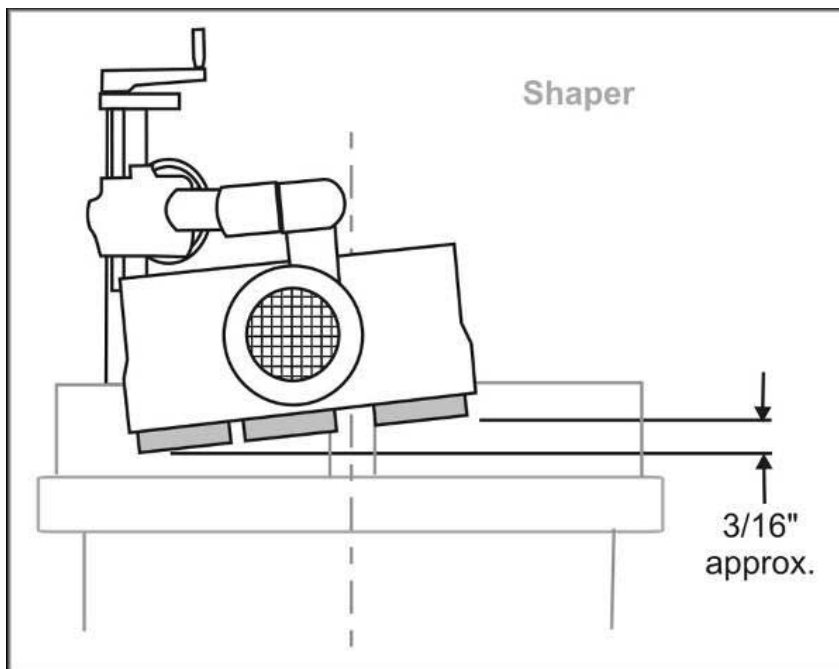

Figure 15 - Stock Feeder Position for Vertical Shaping
10. When the Stock Feeder is on its side so that the workpiece is held tight against the fence, as in creating molding, it must be inclined slightly towards the work table in the direction of feed, to ensure the workpiece remains forced down against the table. In other words, the outfeed roller should be approximately 3/16" closer to the work table than the infeed roller. See Figure 15.